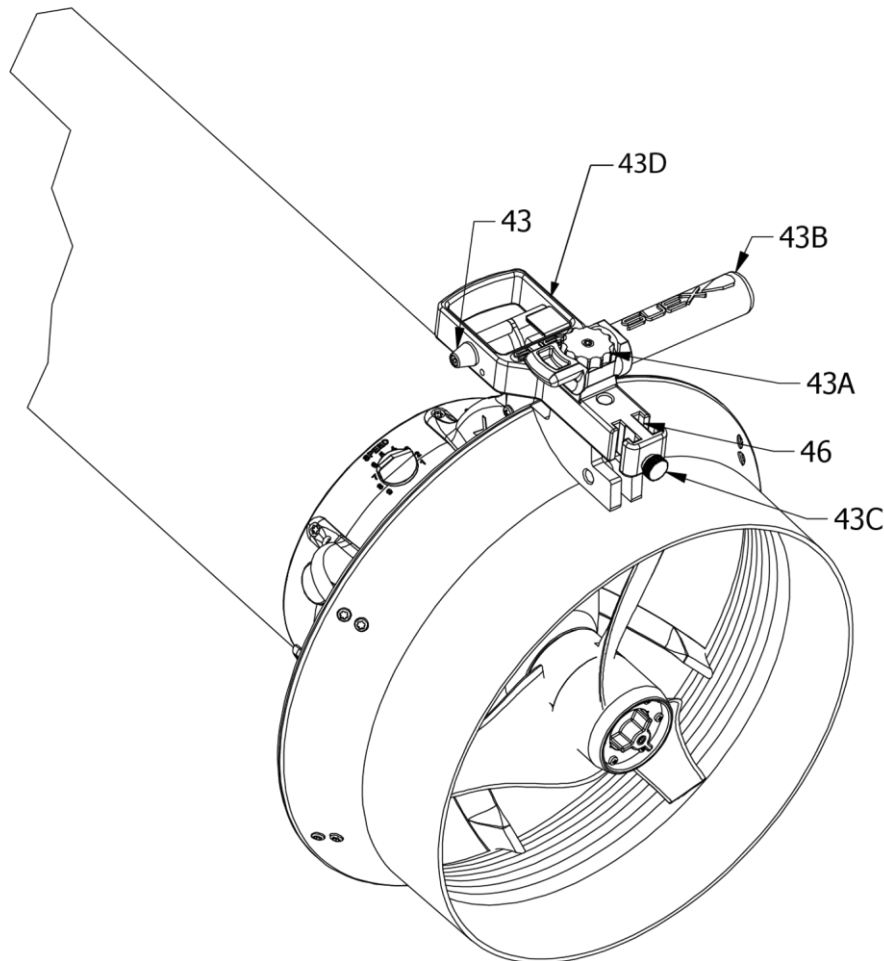

Fig.7 - Revolving handle and cruise control
In the control device (Fig. 7) we find: the trigger (43D), a fixing knob (43A) and a relative knob locking screw, a handle (43B), an accessory fixing knob (43C), two seats for accessories (46) and cruise control (43).
As for use, the handle can be positioned on the right (as in Fig.7) or on the left.
The cruise control knob (43 - Fig.7) can be mounted either to the right or to the left of the handle.
The knob cruise control (43 - Fig.7), must only be used under the diver's maximum control. The knob, trigger or DPV ignition switch must be accessible at all times to avoid any type of collision or driver dragging risks in hazardous areas.
By adding the sea ballast (23 - Fig.7), supplied, the Scooter can be adapted for use in salt water.